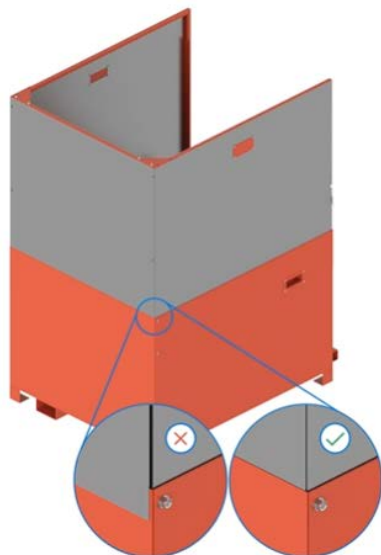

Figure 6.2.8: Placing the Back Panel
9. With the help of another person, orient the back panel as shown (Figure 6.2.8) and lift it into place. **NOTE: The bottom edge of the panel will fit between the inside of the pan and the sides that were previously installed.**